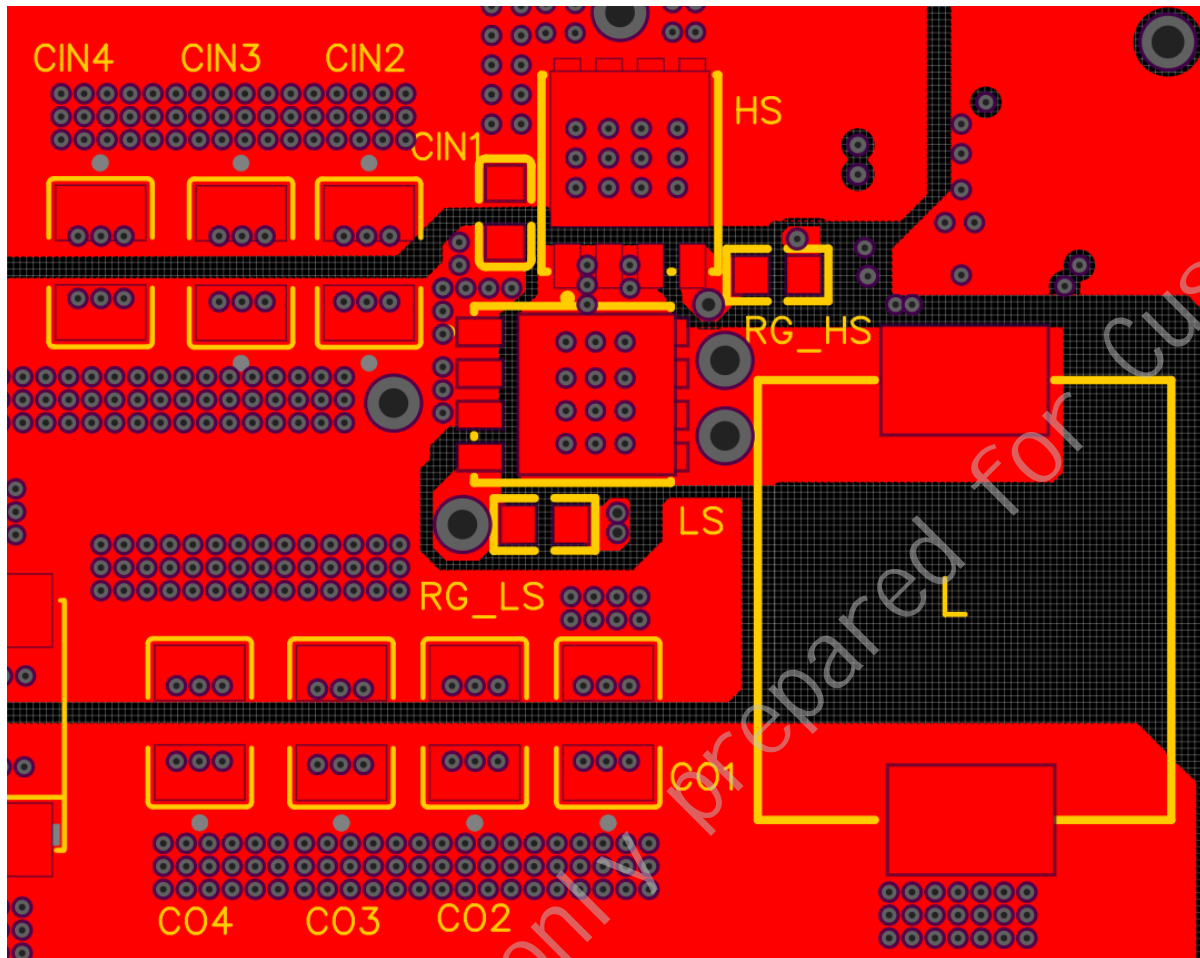

Figure 35 MK9280 Power Loop Layout Example
- Minimize the loop area formed by C_{IN} connections to VIN and GND pins, refer to Figure 35.